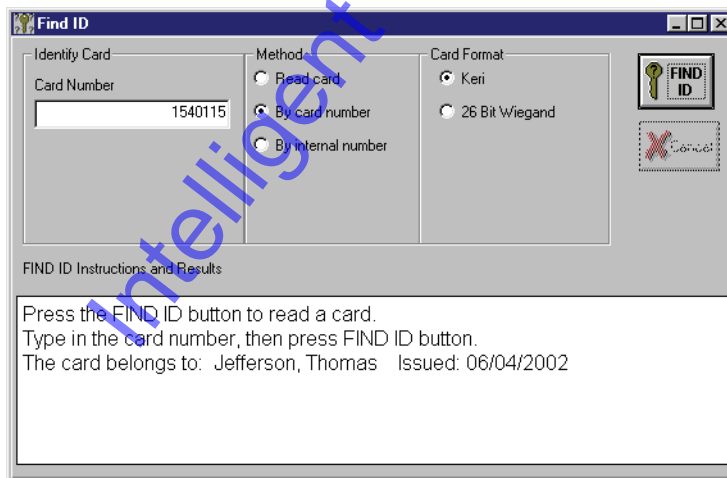

Figure 4-54: Card Identified by the Card Number
7. The user’s name and date of issue is displayed in the “Find ID Instructions and Results” field (see Figure 4-54).